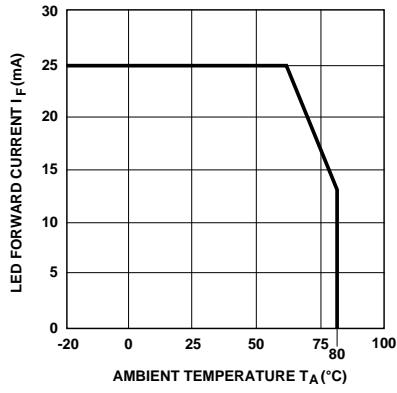

Figure 9. LED Forward Current vs. Ambient Temperature.
1. Derate absolute maximum ratings with ambient temperatures as shown in Figures 9, 10, and 11.